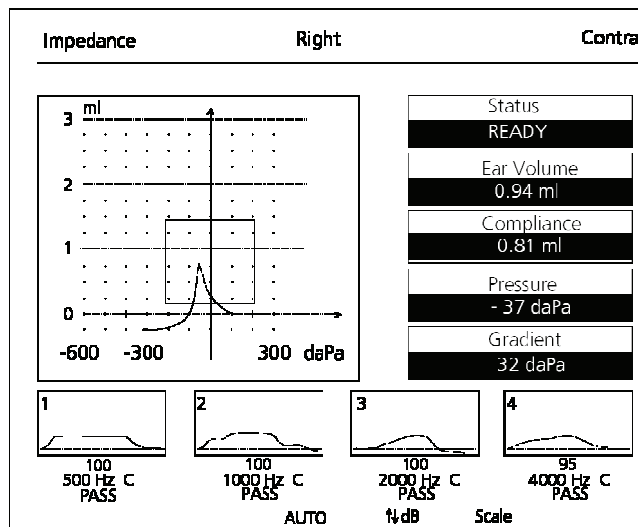

Figure 24 Example of a normal Tympanogram with contralateral reflex results
In addition to the Tympanogram shown on the left side and the values shown on the right, now you can see the results of the reflex measurement in the lower part of the display ⑤. In four boxes marked 1 to 4 the stapedius response is shown graphically. Below each box the test level, the test frequency, the type of the test (I=ipsi, C=contralateral) are shown. Also the test result is shown as "PASS" or "FAIL". In the example in Figure 24 for 500 Hz a stapedius reflex was registered at 100 dB_{HL} and for 4 kHz at 95 dB_{HL}. If no reflex